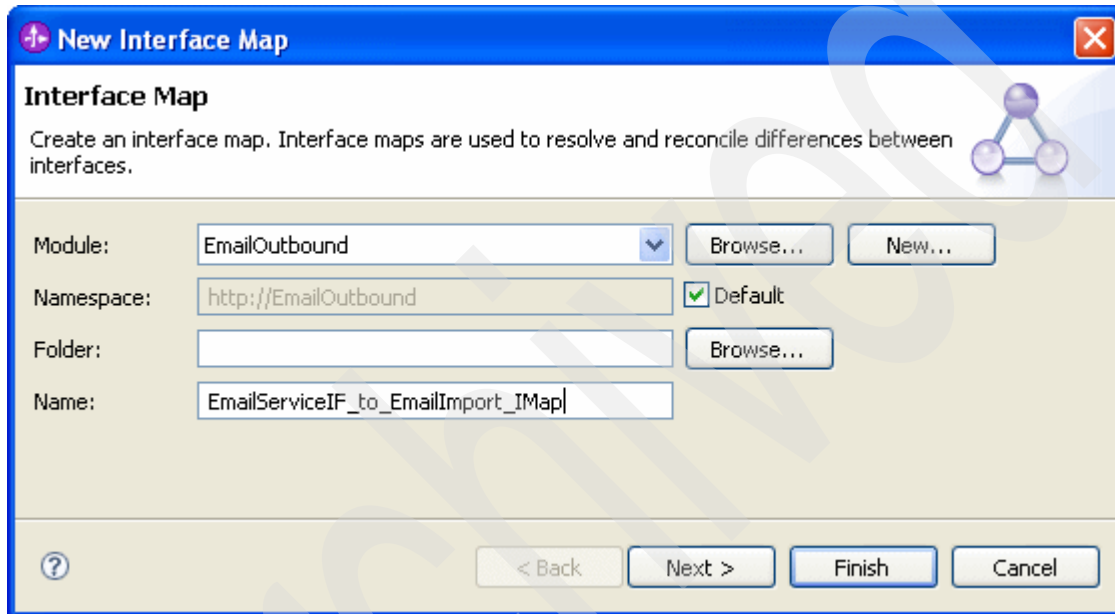

Figure 3-229 New Interface Map wizard
- b. Enter for Name EmailServiceIF\_to\_EmailImport\_IMap as shown in Figure 3-229, then click **Next**.